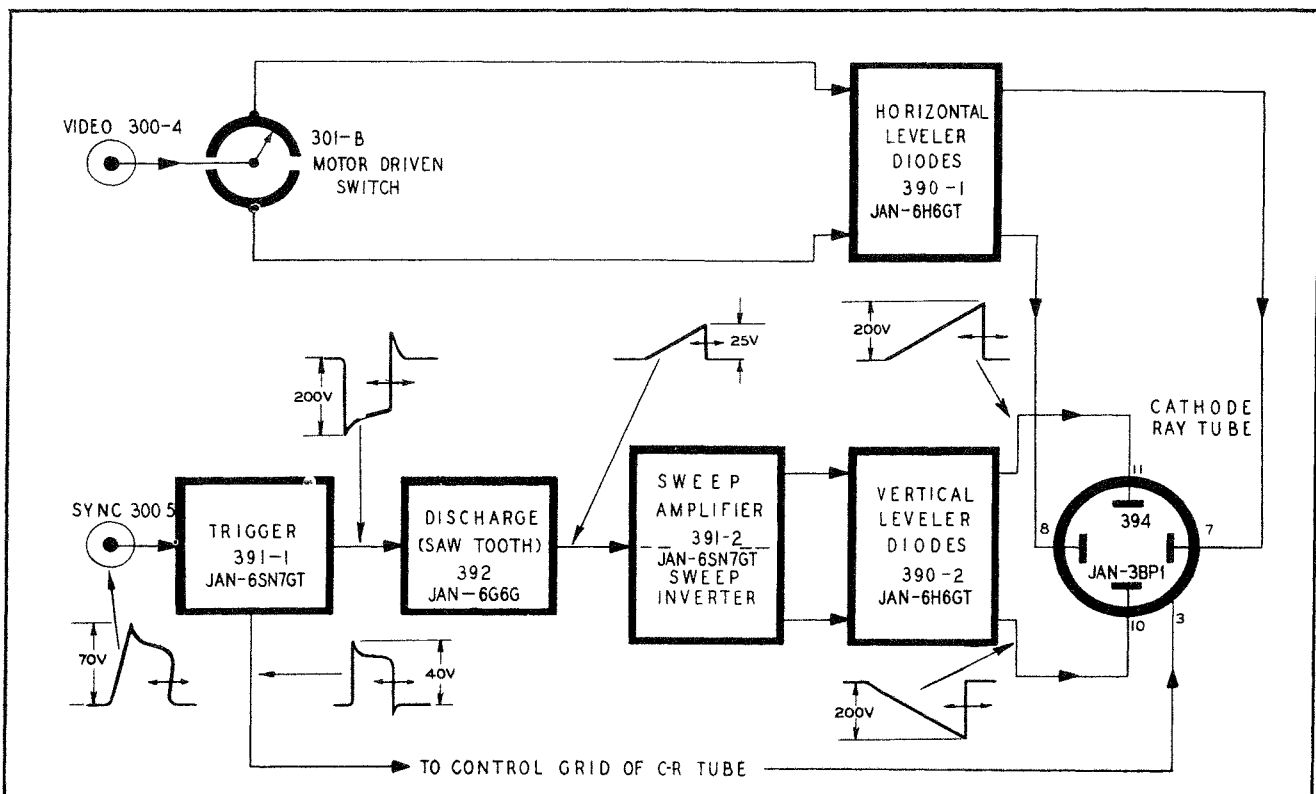

Figure 4-9. Indicator BC-929-(*)—Functional Block Diagram
(1) GENERAL.—Indicator BC-929-(* (see fig. 4-9) gives a visual representation of distance and direction, with respect to the line of flight, to a ground beacon station. The indicator consists primarily of a 3-inch cathode-ray tube with a calibrated scale and associated circuits. The frequency of the sweep voltage, generated in the indicator circuits and applied to the vertical-deflection plates, is controlled by the pulse-generating cir-